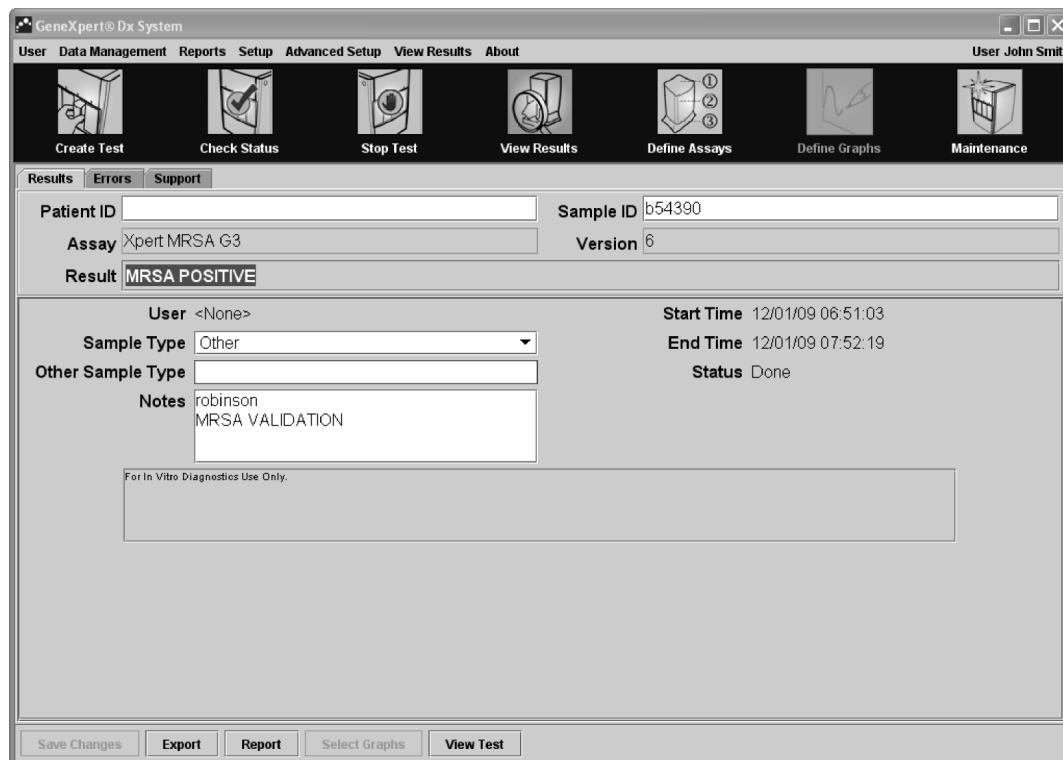

Figure 5-24. GeneXpert Dx System, View Results window —Results tab (Basic users view)
Figure 5-24 shows the View Results window for Basic users. The window contains three tabs: Results, Errors, and Support.
The **Results** tab displays the following information for a test (Figure 5-24):
1. In the View Results window (Figure 5-24 or 5-27), edit the Sample ID, Test Type, or Notes (Figure 5-33).